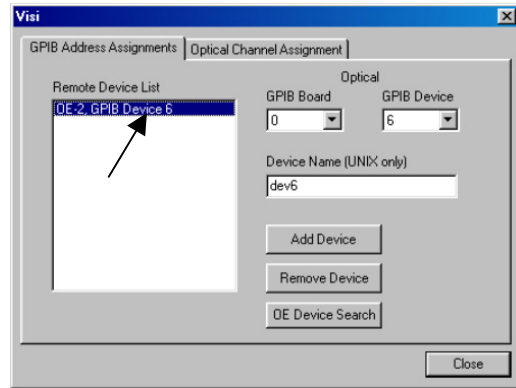

Figure 2. GPIB Address Assignment window
- Select <Edit> from the main GigaView (pull down) menu. Select “Optical Configuration”. The GPIB address assignment window will appear. (See Figure 2) The fields will be empty unless device assignments were previously made. The default address is six unless it has been changed on the back panel of the OE-2. Select the “ADD DEVICE” button. The OE-2 address will appear in the remote device box. If you have a 2 port/channel OE-2, in the remote device list window, the left port/channel is listed as port A and the right port/channel is listed as port B. If you have multiple OE-2 units connected to the SIA, you will need to assign a separate address for each device. If the OE-2 is not showing up on the device list, select the OE Device Search. This will scan GPIB bus for an optical device. If one is present, the device will appear in the remote device list window.